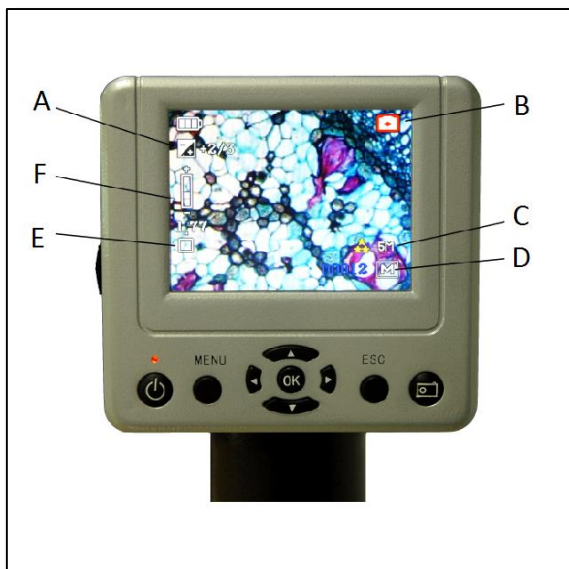

Figure 7. LCD monitor – camera mode
save in your internal storage memory. b) Quality – The quality can provide fine, standard and economy images. c) White balance – you can change a different white balance to observe different slices. On the bottom's right side of the screen (Figure 7-D) there is a number of estimated remaining snapshot images left in the internal memory or SD card.
11.2. Camera. The symbol on the top right of the LCD screen (Figure 7-B) means you are in camera mode. On the top left of the LCD screen (Figure 7-A) there is the EV (Exposure Value), which adjusts the brightness level. The normal position is 0.0, but it can be adjusted in increments up to -2 to +2 by pushing the left/right directional keys.
On the left in the middle (Figure 7-F) there is the digital zoom feature. Use the directional keys (up/down) to zoom in and out; maximum at 4x.
The picture setting mode (Figure 7-E): the normal (default setting) is "Single" for taking snapshots one at a time as you choose.
a) Size (Figure 7-C) – this sets the resolution you want for the image. The camera itself uses the 2560x1920 pixel arrangement (5MP), but you can use digital interpolation to increase the resolution or you can use lower resolutions to increase the number of images you can
On the bottom's right side of the screen (Figure 7-D) there is a number of estimated remaining snapshot images left in the internal memory or SD card.